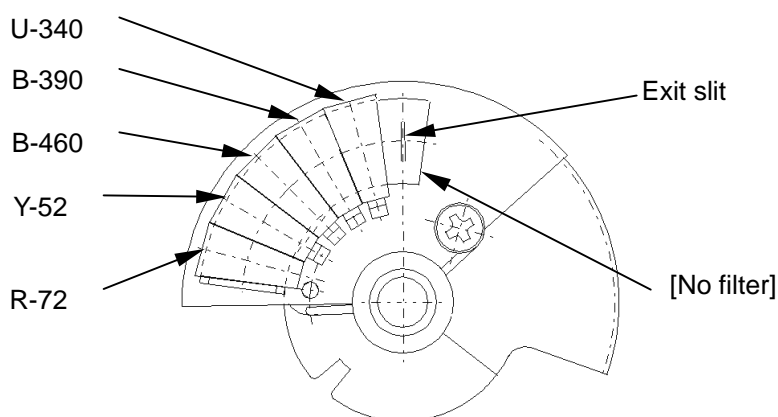

Fig.9-2 Stray light cut filter
Grating diffracted light contains wavelength light such as half or one third (known as second-order and third-order light) of the selected wavelength, so light that passes through the exit slit (S2) is passed through the stray light cut filter (F) to remove such surplus light. The stray light cut filter automatically switches to the filter (six options) appropriate to the selected wavelength (see Fig. 9-2 for configuration details).